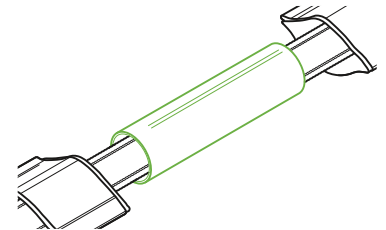

Fig. B12.2.5
5. Remove protection foil from the sleeve (Fig. B12.2.5). Slide the Heat Shrink Sleeve over the joint area, aligning it with the previously marked lines from step 3.